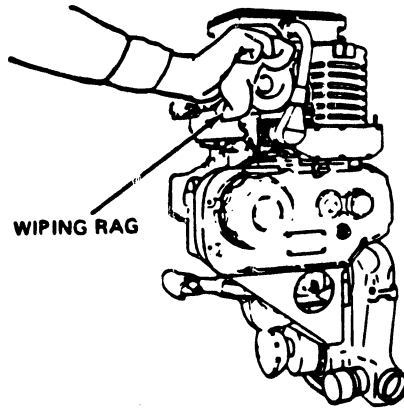

Fig 5-1. Wiping rubber parts.
1. Wipe the rubber parts with wiping rags to clean off loose dirt and dust (fig 5-1).